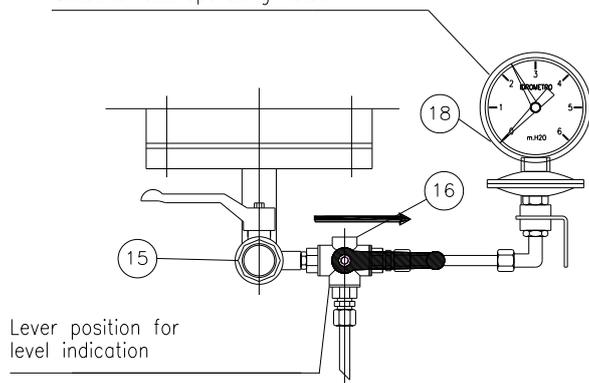
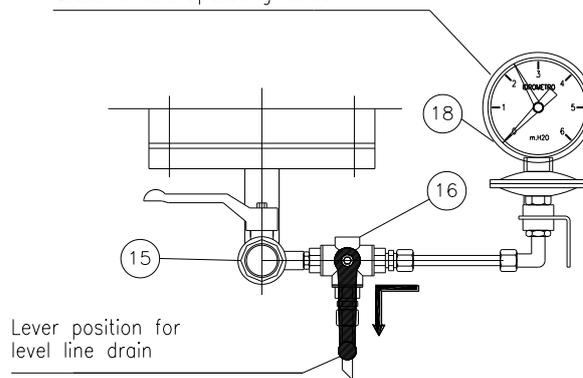

Figure a.11
Figure a.12
- b. Drain totally the water open the valve (13) and (3);
- c. Close the water drain valves (13) and (3), open the level indicator three ways valve (16) as shown in (figure a.11);
- d. The concentrate level is indicated on Hydrometer (18);
- e. After that, close the three ways valve (16) as indicated in figure a.12 allowing to drain the remained concentrate in the instrument pipe.